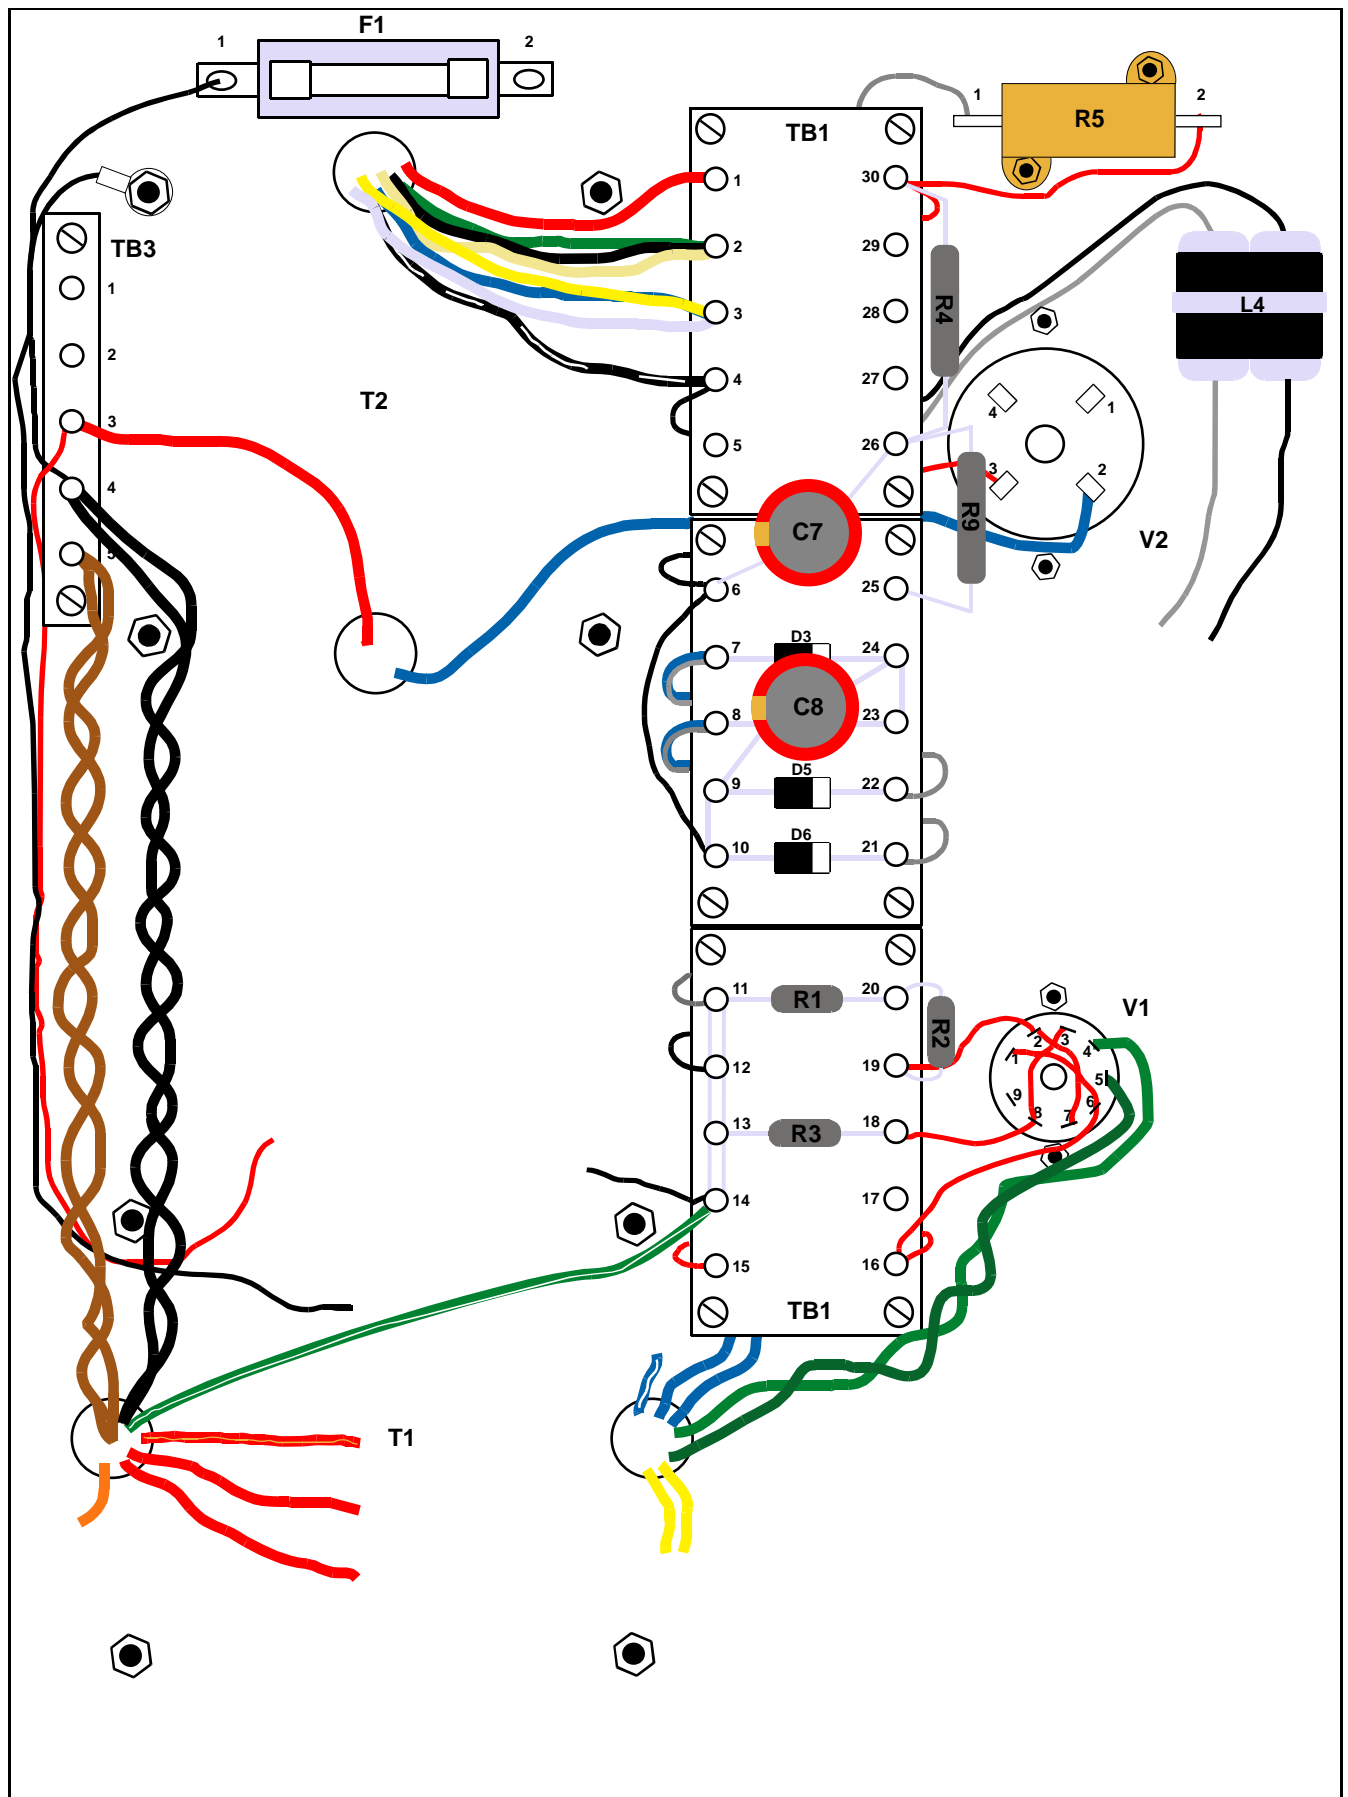

Figure 5
7) Now is a good time to inspect all connections and clean up any solder flux that may have splashed onto the terminal boards, top plate, etc. As the amplifier is populated with more components it becomes more difficult to position the soldering iron without touching already placed parts. It is very important that you be aware of these parts when soldering and not accidentally burn the insulation off an adjacent component or wire. For this next section, refer to figure 5 for all connections.
Solder resistor R1 between TB1-11 and TB1-20 as shown in figure 5.
Solder resistor R2 between TB1-19 and TB1-20 as shown in figure 5.
Solder resistor R3 between TB1-13 and TB1-18 as shown in figure 5.
Solder resistor R4 between TB1-26 and TB1-30 as shown in figure 5.
Solder resistor R9 between TB1-25 and TB1-26 as shown in figure 5. Be sure to leave approximately 1/2" of clearance between the resistor R9 and tube socket pins of V2
Solder capacitor C7 between TB1-6 and TB1-26 as shown in figure 5. Note C7 capacitor is polarized. The capacitor lead adjacent to the band on the body of the capacitor is the negative lead and should be soldered to TB1-6.
Solder capacitor C8 between TB1-9 and TB1-24 as shown in figure 5. Note C8 capacitor is polarized. The capacitor lead adjacent to the band on the body of the capacitor is the negative lead and should be soldered to TB1-9.